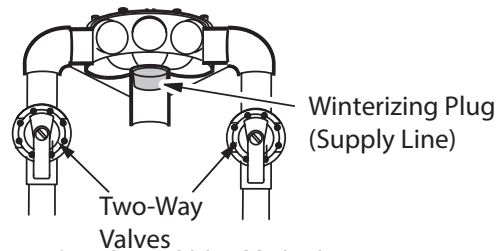

Figure 15. 2-way Valve Method
- **2-way valve:** Follow the same instructions for the expansion plug, but, instead of using the expansion plug, close the 2-way valve to seal the system. Insert an expansion plug into each port to prevent water from getting into the ports and to be used as a back-up seal (see Figure 15).